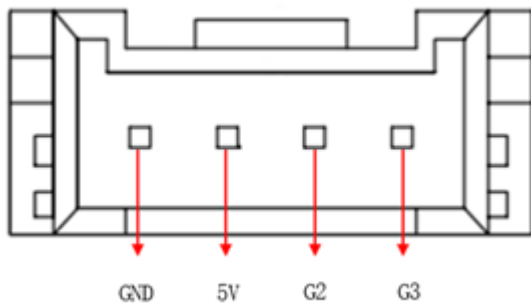

Figure 1-2 Functional IO interface 2
- Note: 14Pin function IO interface 1 is a 2.54mm DuPont interface, external can use 2.54mm DuPont line; function IO interface 2 and function IO interface 3 using Grove interface, as shown in Figure 1-2, 1-3: